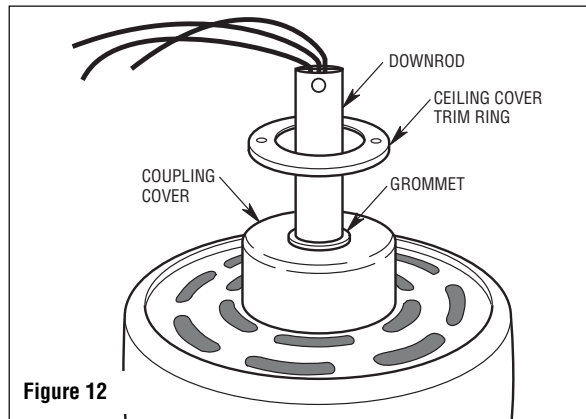

Figure 12
4. Make sure the grommet is properly installed in the coupling cover then slide the coupler cover on the downrod until it rests on the motor housing (Figure 12).
5. Place the ceiling cover trim ring and ceiling cover over the downrod. Be sure both pieces are oriented correctly (Figure 12).